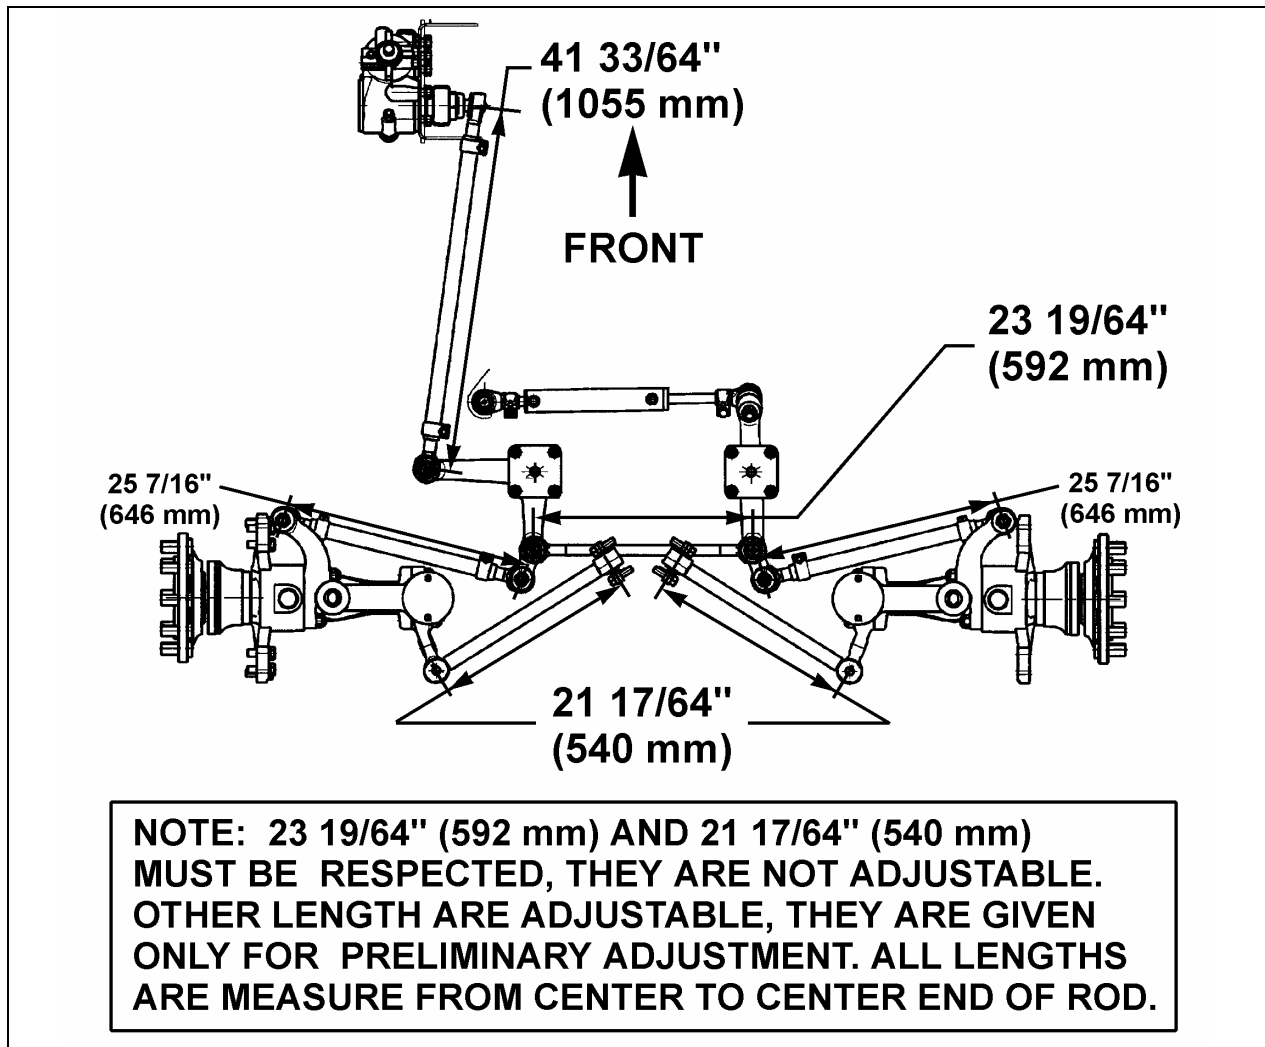

FIGURE 23: STEERING LINKAGE MEASURE
7. Check if the length of the torque rod is 21 $\frac{17}{64}$ " (540 mm) (Fig. 23). Check if the length of the relay rod is 23 $\frac{19}{64}$ " (592 mm)
ALIGNMENT SPECS (See Figure 23)